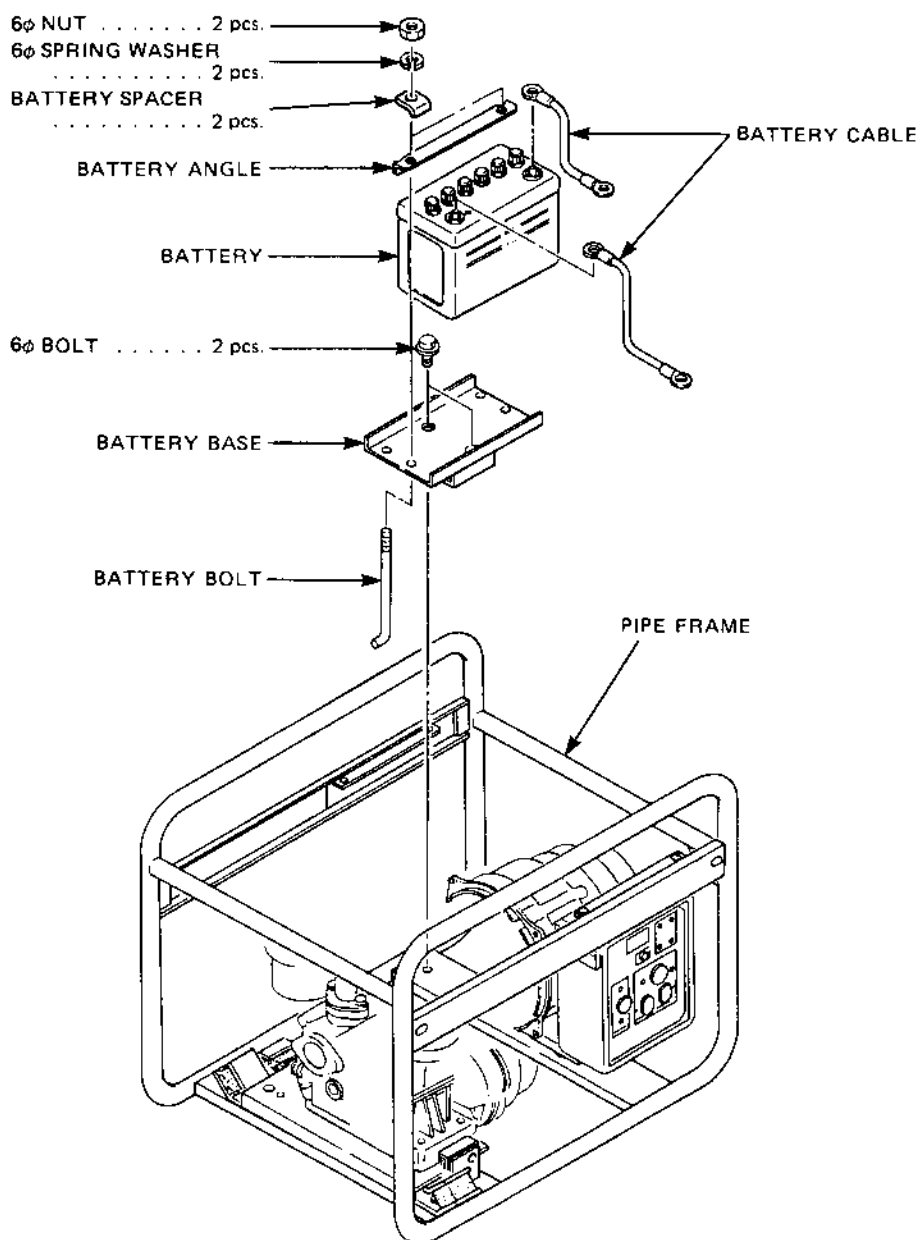

Fig. 10-45
- (2) Mount the battery on the battery base, and fix it with two battery bolts and a battery angle. (See Fig. 10-45.)